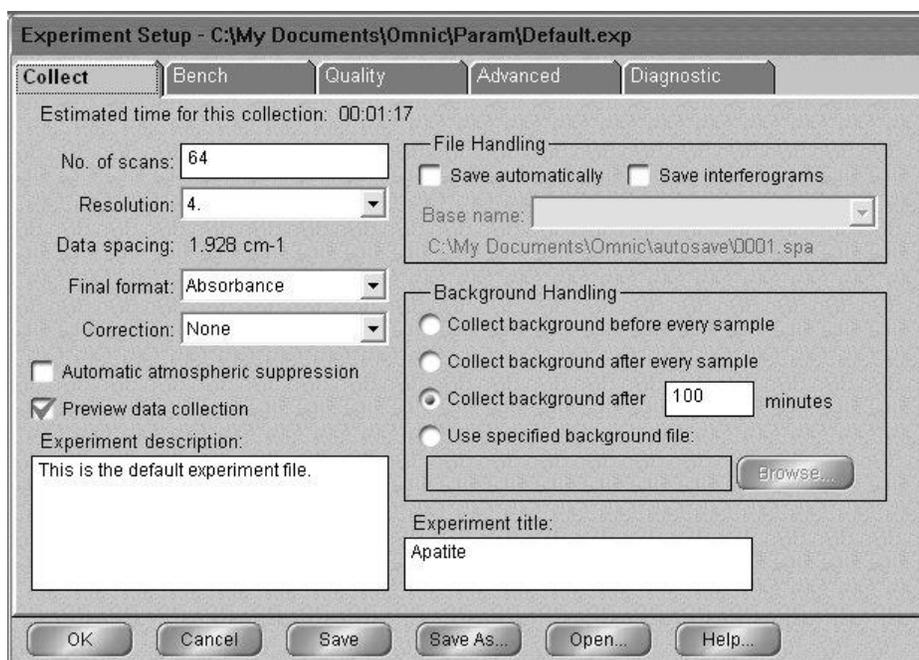

Figure 10: The Collect tab of the Experiment Setup window.
- 4.d. Under the *Collect* tab, set the number of scans to 64 and the final format to absorbance. Check *Preview data collection* and click the radio button for *Collect background after 100 minutes*. Finally, enter a title for the experiment. Check that your window matches that shown in Figure 10.